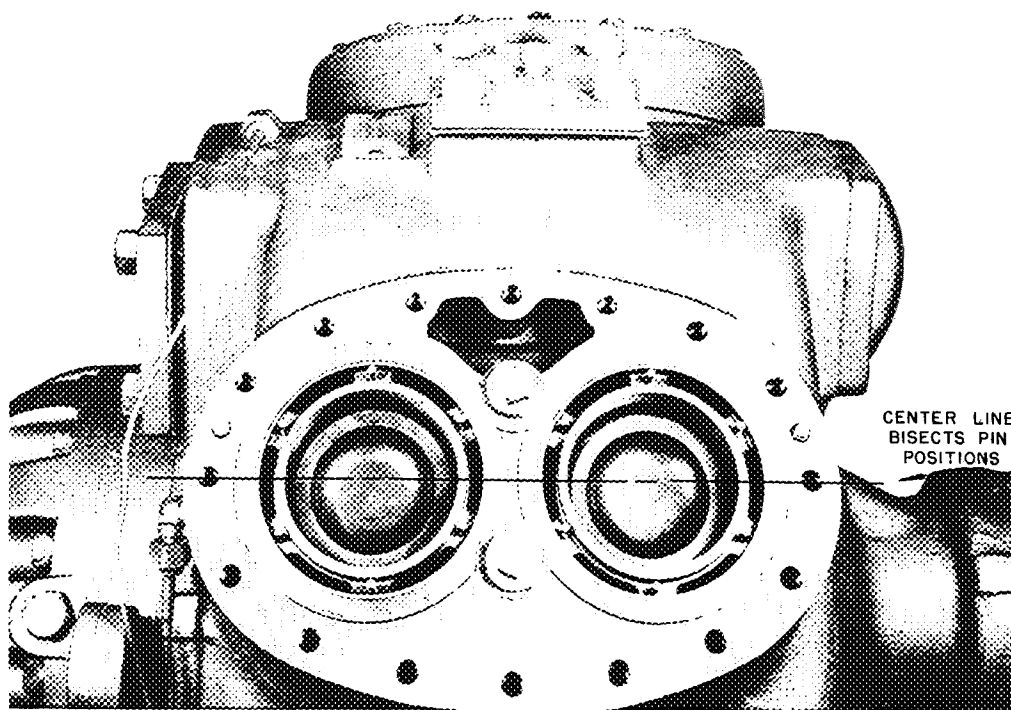

FIG. 22 - POSITION OF CYLINDER SLEEVES
6. Rotate the sleeve so that any two valve lifter pin holes lie equal distances from the longitudinal axis of the compressor as shown in Fig. 22. In this position the valve lifter pins
**CAUTION:** Never operate the compressor with a valve plate off unless the cylinder sleeves are fastened in place. Cylinder sleeves can be held in place by capscrews and washers as shown in Fig. 22. The capscrews are screwed into the tapped holes normally used to hold the valve plate in place. Use plate washers large enough to extend well over the faces of both sleeves or make up steel plates for this purpose. Two washers or plates should be used on each cylinder deck.